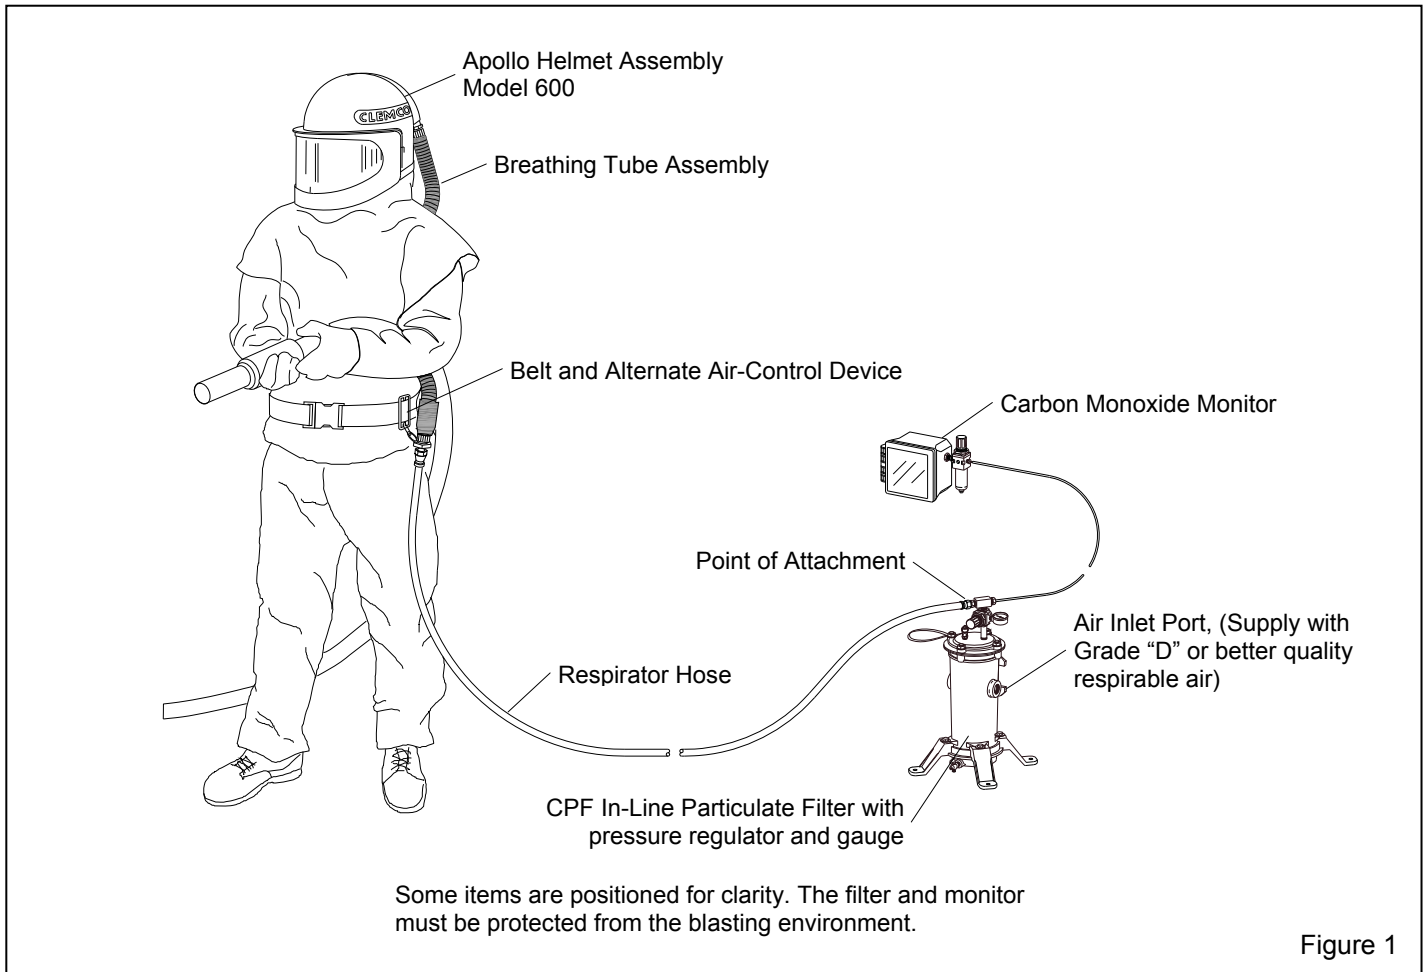

Figure 1
**4.4.1.2** The Clemco CPF Inline Particulate Filter with regulator meets this requirement for a regulator and gauge, provided the inlet pressure does not exceed 150 psi. See typical installation, Figure 1.